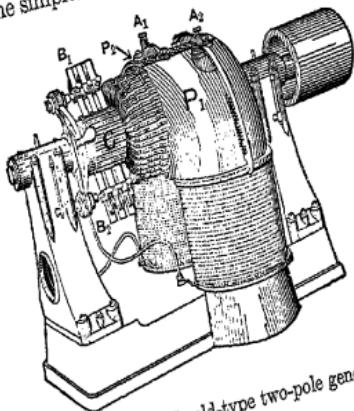
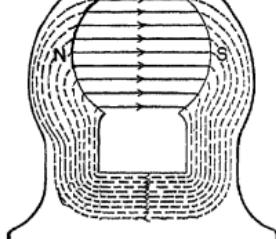
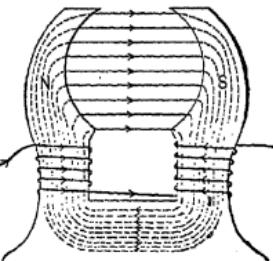

FIG. 181. Simple old-type two-pole generator.
FIG. 185. Diagram of the magnetic lines in a two-pole generator.
FIG. 187. The current in the coils produces the magnetic field.
97. Voltage Generated in Armature Wires. Fig. 181 represents the simplest form of two-pole direct-current generator.
98. Magnetic Field of a Motor. The magnetic field of the 2-pole motor in Fig. 181 is merely the field of a bar magnet bent into a horseshoe as in Fig. 185. Note that here, too, the lines come out of the north pole and enter the south pole, go through the yoke and back again to the north pole.
It will be noted that around the pole pieces P_1 and P_2 of Fig. 181, there are wound coils of wire. These coils supply the magnetizing
In order to produce a field as in Fig. 185, which is the field for the machine of Fig. 181, we merely have to wind coils around the pole pieces and send a current through the coils in the proper direction, as in Fig. 187.